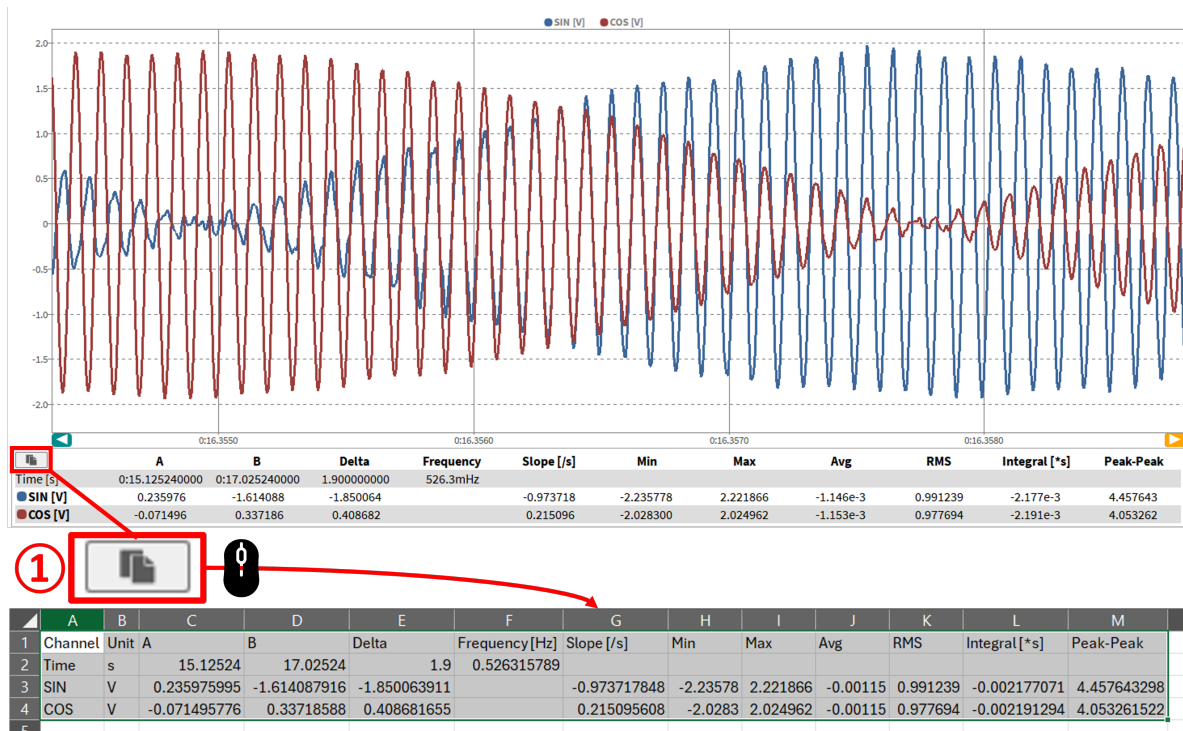

Fig. 8.33: Copy cursor values to clipboard
It is also possible to copy the displayed cursor values directly from the instrument in use to the clipboard and paste them into an Excel file or a simple text file, for example. To do this, simply click on the copy button displayed on the left above the table of cursor values (see ① in Fig. 8.33) or you can simply click in the instrument with the left mouse button and copy the values with the key combination “CTRL + C”.